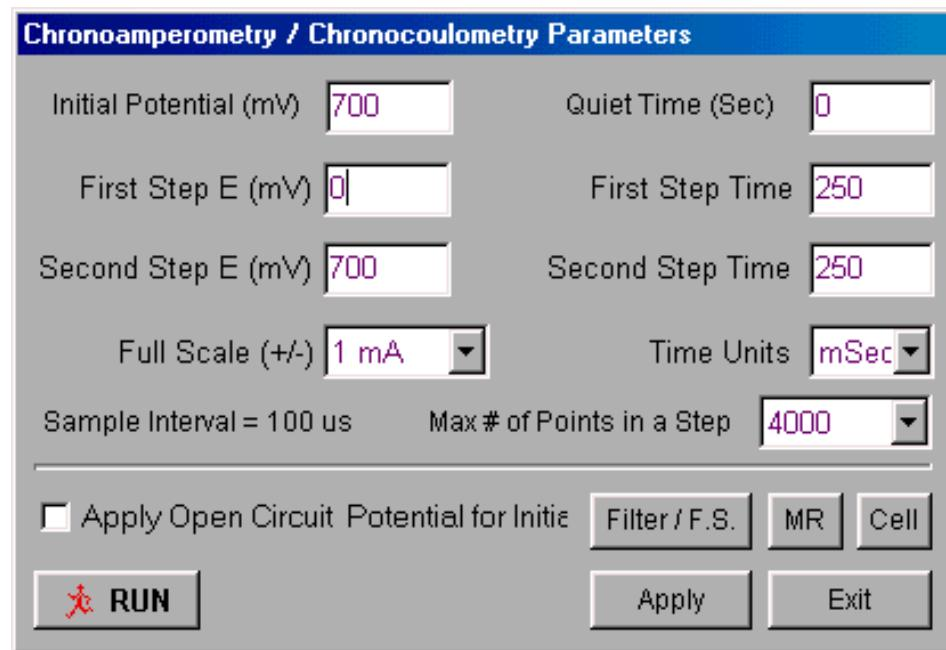

Figure 13. Change Parameters dialog box for Chronoamperometry/Chronocoulometry.
14. Click **New**, and select **Chronoamperometry/Chronocoulometry** from the list of techniques. A third window will appear, together with an associated **Change Parameters** dialog box. Enter the parameters shown in **Figure 13**. Running